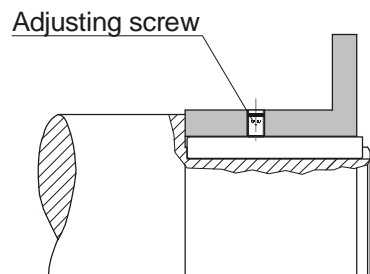

Fig. 4
- For axial securement, please provide an additional adjusting screw (ISO 4029 - 45H) as an alternative to a press cover (see Figs. 4 and 5). The adjusting screw dimensions and tightening torques stated in Table 1 must be kept to.